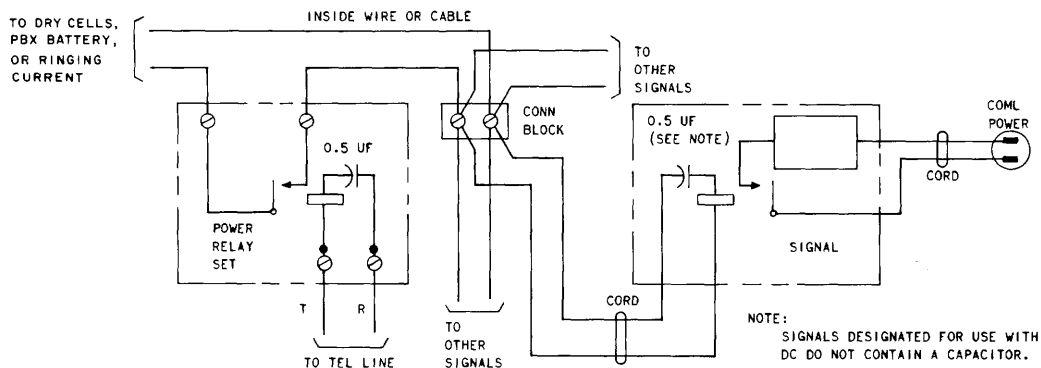

Fig. 22—Multiple Signal
6.02 Several signals may be connected as shown in Fig. 22. This has the advantage of only one ringing bridge on the telephone line for several auxiliary signals. The total number of auxiliary signals connected to a power relay set should not exceed the current carrying capacity of the relay contacts. Special commercial power wiring is not needed between relay set and signals.